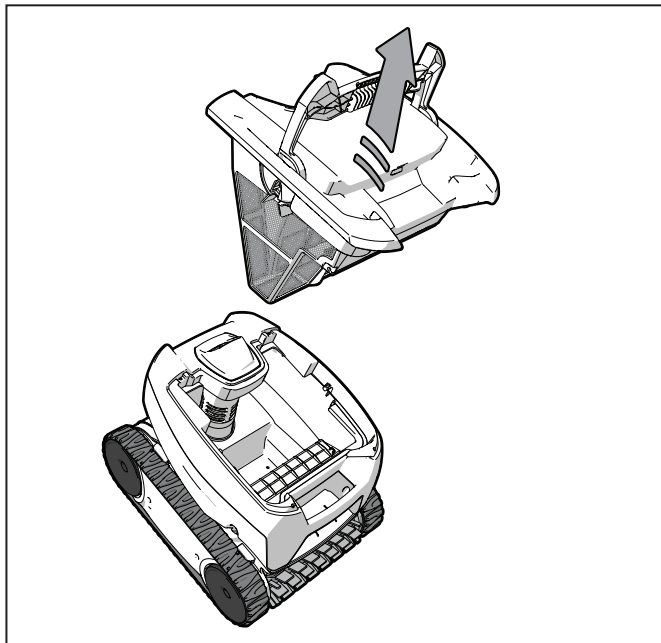

Figure 11. Remove the Filter Canister
3. Grasp the handle and lift up to remove the filter canister (Figure 11).